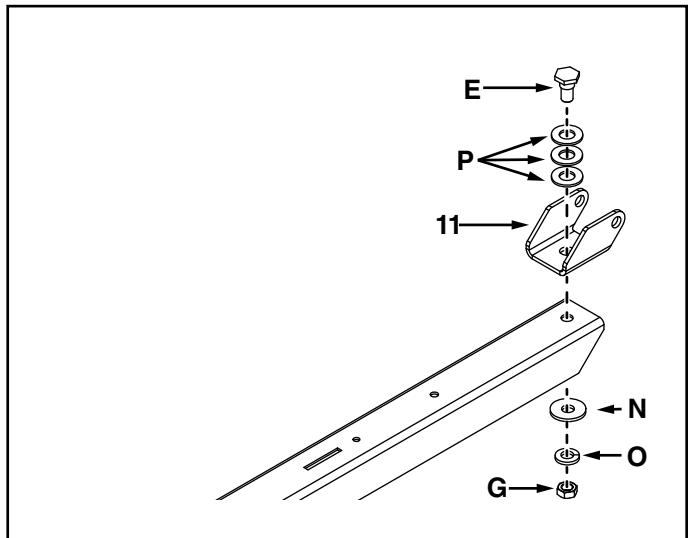

FIGURE 2
- (1) 3/4" Wrench
STEP 2: (SEE FIGURE 2)
1. Attach the pivot clevis to the tongue using a 1/2" x 1-1/8" bolt (E), three 5/8" x .656" washer (P), a 1/2" x 1-1/2" washer (N), a 1/2" lock washer (O), and a 1/2" jam nut (G).